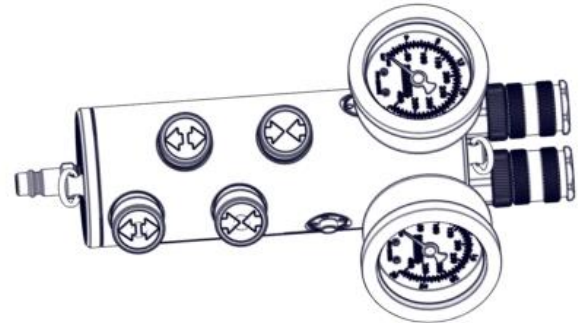

Figure 1-32B Dual Deadman Controller
- d. **Dual Deadman Strut Controller.** The Dual Deadman Strut Controller (Figure 1-32B) is a single input/dual output controller incorporating quick disconnect hose fittings and four pushbuttons to apply "UP" and release "DOWN" air pressure to either one or two struts. Two gauges are provided to monitor the air pressure provided to either one or two strut(s) and a 250 psi (17.2 bar) relief valve is incorporated to limit the applied air pressure. An adjustable strap permits attachment to the operator.